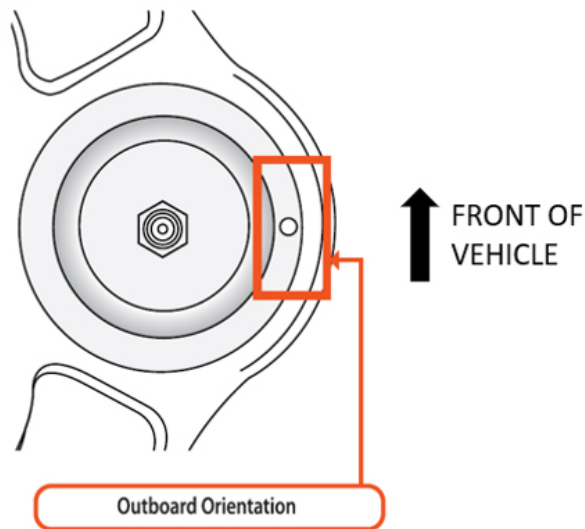

Figure 3. Correct ball joint installation orientation when mated to front upper control arm. Note drilled index mark position (highlighted orange box)
- During press-in, index mark must be oriented so that it is perpendicular to the wheel (facing outboard). For an illustration of correct installation orientation, **see Figure 3**.